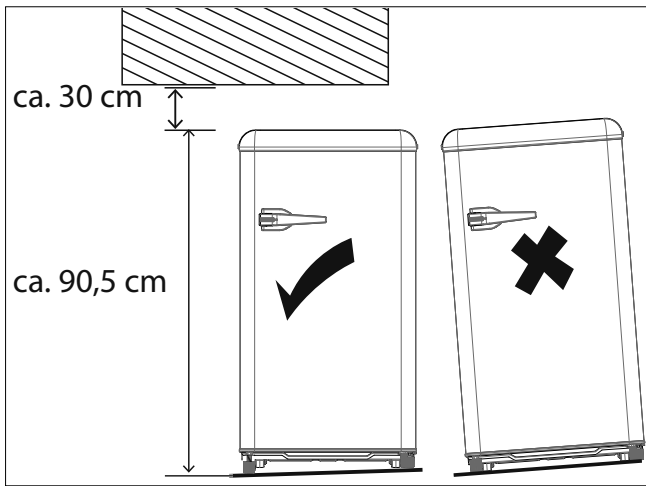

Fig. 4 – Minimum room height, aligning the appliance
- ▶ Ensure that the appliance is level, compensate for any unevenness in the floor by screwing in the adjustable feet (3) (see Fig. 4).